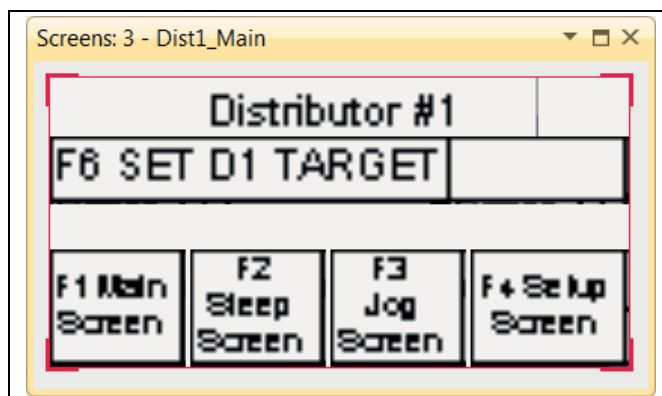

Figure 5V
8. Press the **F4** Home Screen key to display the screen as in Figure 5V.